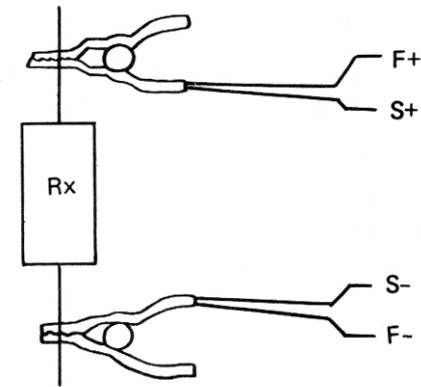

Fig. 6-1
1. Connect an unknown resistor to the test terminals as shown in Fig. 6-1.